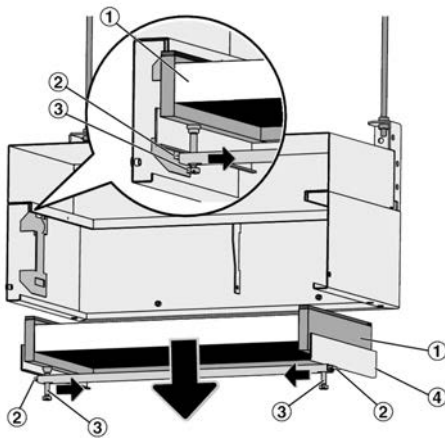

Fig. 11: Filter change
- ▶ Remove the clamping frame. To do so, loosen the clamping screws (Fig. 11/3) and press the release buttons (Fig. 11/2) in. Remove the clamping frame (Fig. 11/4) with the filter element.
- ▶ Remove the dust-laden filter (Fig. 11/1) from the clamping frame, put it into a plastic bag and dispose of it properly, see *'Disposal'* on page 11.